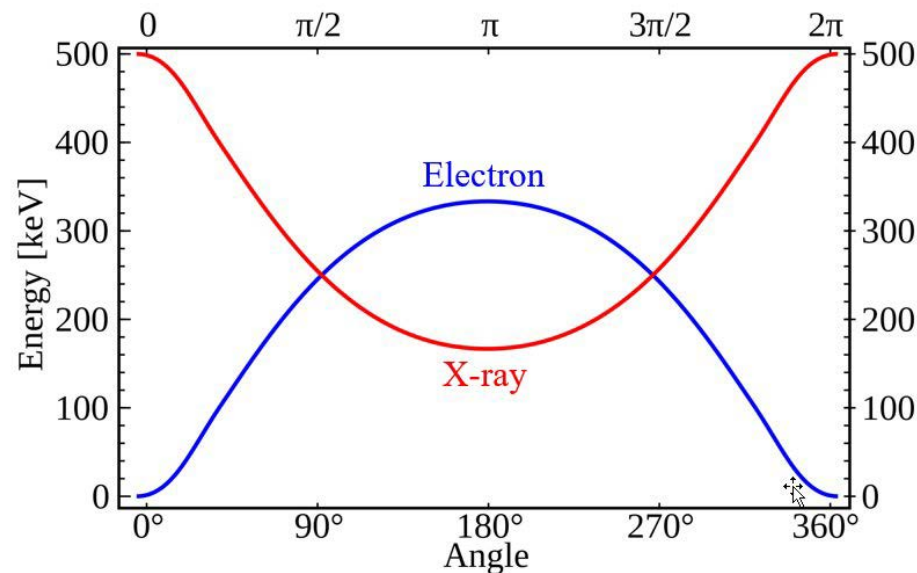

Fig. 10 – Deviation angle of the scattered X-ray and the emitted electron as a function of the incident X-ray energy
- The average scattering angle decreases as the X-ray energy increases (Fig. 10).